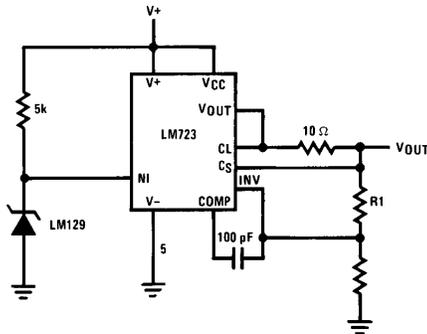

FIGURE 7. External Reference For IC
*Figure 7* shows an LM723 using an external LM129 reference. The internal 7V reference is not used and a single resistor biases the LM129 as the reference. The 5k resistor chosen provides sufficient operating current for the zener over the 10V to 40V input voltage range of the LM723. Since the dynamic impedance of the LM129 is so low, the reference regulation against line changes is only 0.02%/V. This is small compared to the regulation of 0.1%/V for the LM723; however, the resistor can be replaced by a 1 mA to 5 mA FET used as a constant current source for improved